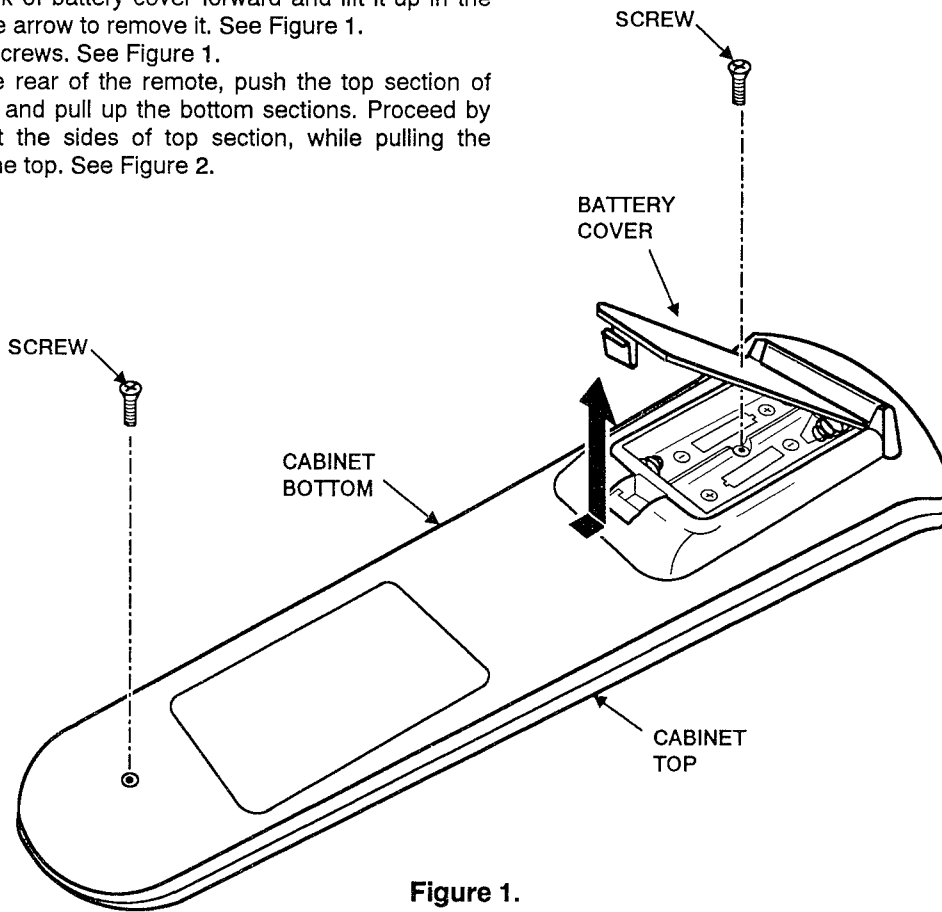

Figure 1.
1. Press the hook of battery cover forward and lift it up in the direction of the arrow to remove it. See Figure 1.
2. Remove two screws. See Figure 1.